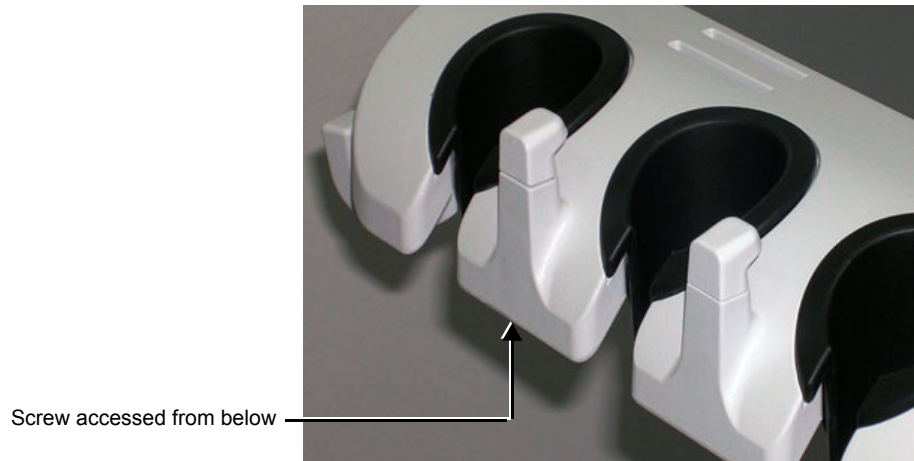

Figure 8-107 Probe Cable Hooks
- 1) From below the Probe Shelf, remove the Probe Cable Hook retaining screw (see Figure 8-107 on page 8-96).